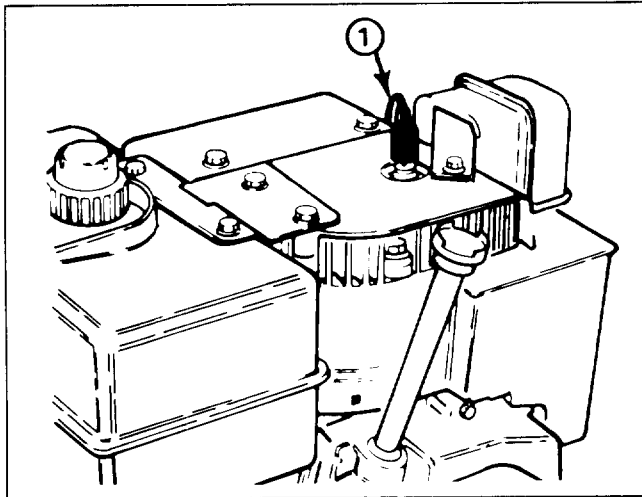

Figure 37
2. Pull wire off spark plug (Fig. 37) and remove plug from cylinder head.